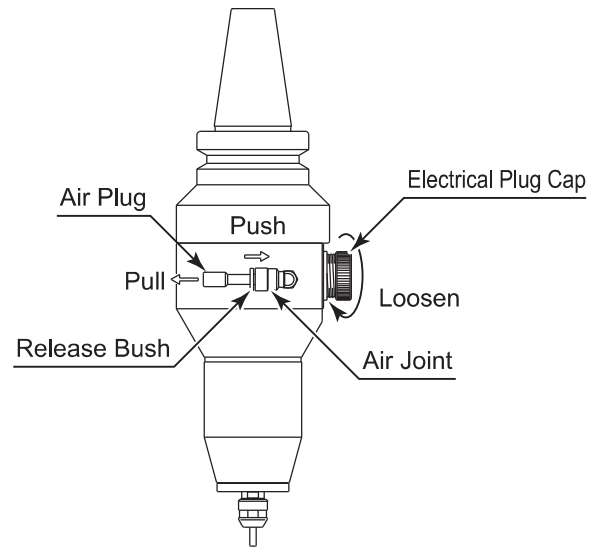
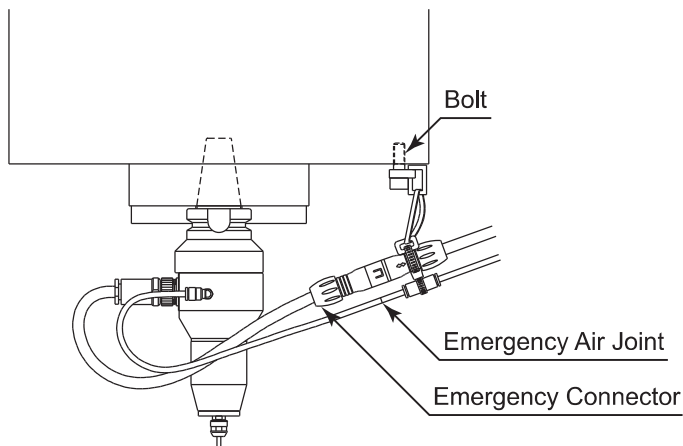

Fig. 15
Fig. 18
- DO NOT separate the Emergency Connector manually. It is not a quick disconnect connector, it is an Emergency System : If the machining center's main spindle is rotated by mistake, the Emergency Connector on the motor cord will separate. If the hanger for the Emergency Connector is too loose, the Emergency Connector can slip out of position during high speed rotation and cause the Emergency System to malfunction. Please check the integrity of the Emergency Connector and suspension properly prior to use (SEE Fig. 18).
- ① Insert and Clamp the Brushless Motor Spindle into the machining center's main spindle.
- ② Remove the Electrical Plug Cap from the Brushless Motor Spindle by turning it counterclockwise (Fig. 15).
- ③ Carefully remove the Air Plug from the Brushless Motor Spindle's Air Joint by pressing in the Release Bush in the quick disconnect while pulling on the end of the Air Plug (Fig. 15).
- ⑧ Secure the Emergency Connector to the machine, being sure to correctly, horizontally position the Emergency Connector and Air Line.
- * Route the Motor Cord and Air Hose and hold them securely with enough slack to allow for machines' axis travel (Do not pinch and severely bend the air hose) (SEE Fig. 18).